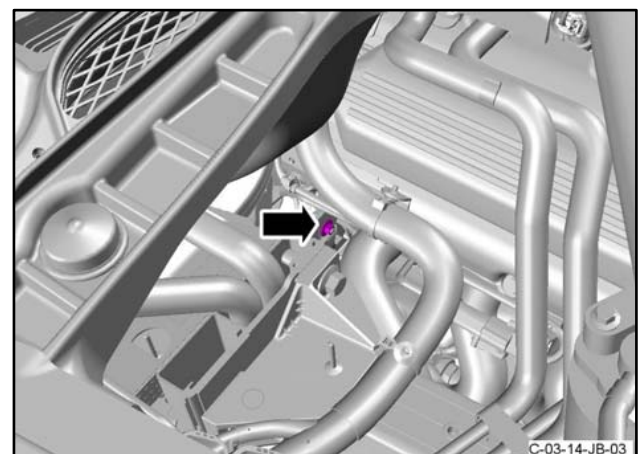

Figure 30
55. Remove the nut that attaches the heat shield for the front floor to the body (refer to Figure 30).